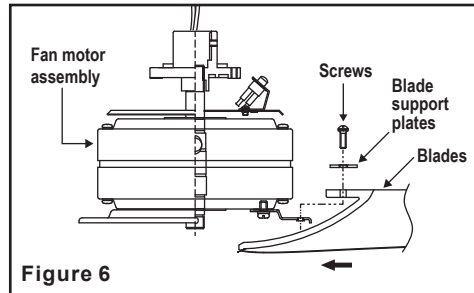

Figure 6
Step 2. Align the holes in the blade and the fan motor assembly and secure with the blade support and blade screw with lock washer. (Fig. 6)